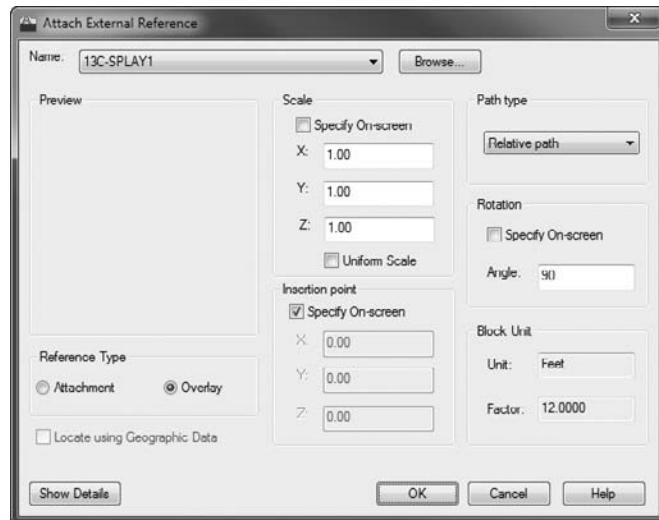

FIGURE 14.75 Attaching the Civil Site plan to the Site Plan sheet file
3. Make the current layer A-ANNO-REFR, and attach 13C-SPLAY1.dwg by configuring the Attach External Reference dialog box, as shown in Figure 14.75.